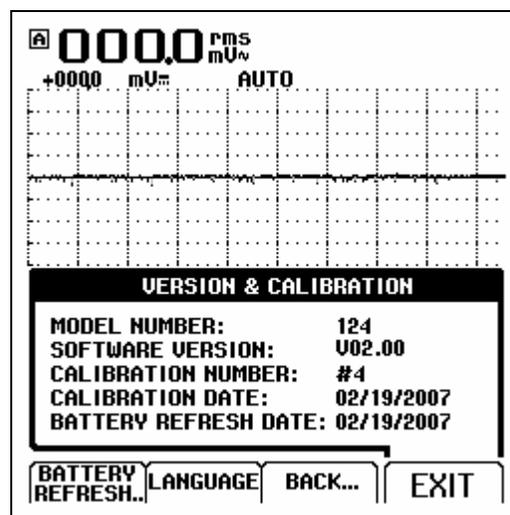

Figure 4-1. Version & Calibration Screen
2. Press  to show the VERSION&CALIBRATION screen (see Figure 4.1).